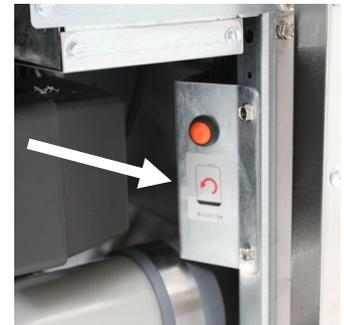

Figure 8
When the oil reservoir level is low and displays TOP OFF OIL EMPTY, (see Figure 3). Press the check button to clear the screen. Once the reservoir is refilled and/or replaced, press and hold the orange reset button next to the oil reservoir (see Figure 8 on the following page) until the message in the lower corner is no longer displayed. If using solid shortening see Appendix B for instructions.
6. Press the JIB reset switch to clear the Top Off Oil Empty display on the FQ4000 controller (see Figure 8).